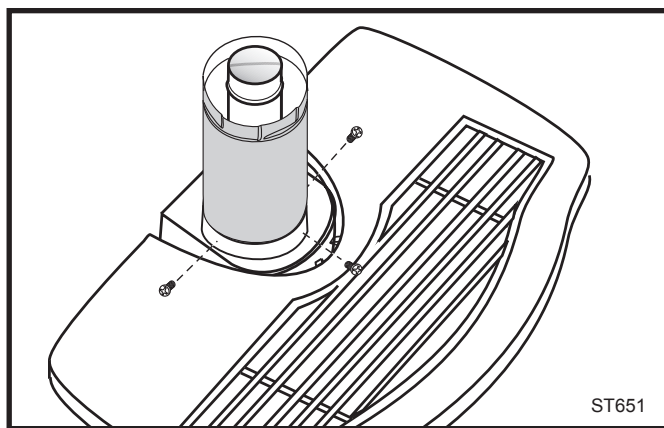

Fig. 23 Simpson Dura-Vent - install outer adapter pipe.
- 3. Install the Outer Adapter Pipe.** Orient the vertical seam to the rear, and insert the crimped end of the outer pipe into the flue collar. Fasten with three sheet metal screws provided. (Fig. 23)